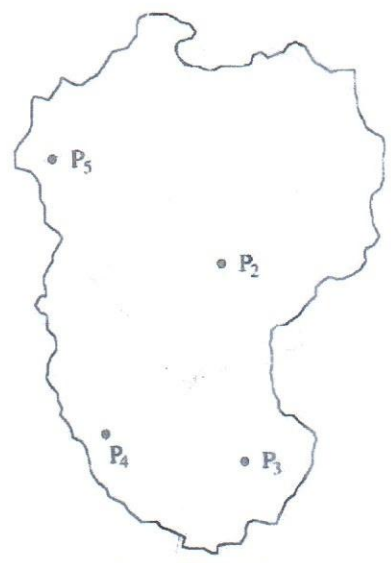

Figure 1
- (d) In a rectangular area five rain gauges P1, P2, P3, P4 and P5 are located as shown in the given figure 1. The recorded rainfall for June is as follows: Station P1: 75 mm, Station P2: 40 mm, Station P3: 65 mm, Station P4: 32 mm and Station P5: 38 mm. Use the Arithmetic and Thiessen Polygon method to compute the areal rainfall of the given catchment for the month of June. (CO2, PO2: 8)